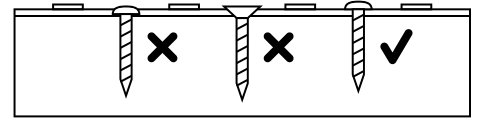

FIGURE 1
- Never screw the fastener so much that it causes deformation in the sheet. See Figure 1.